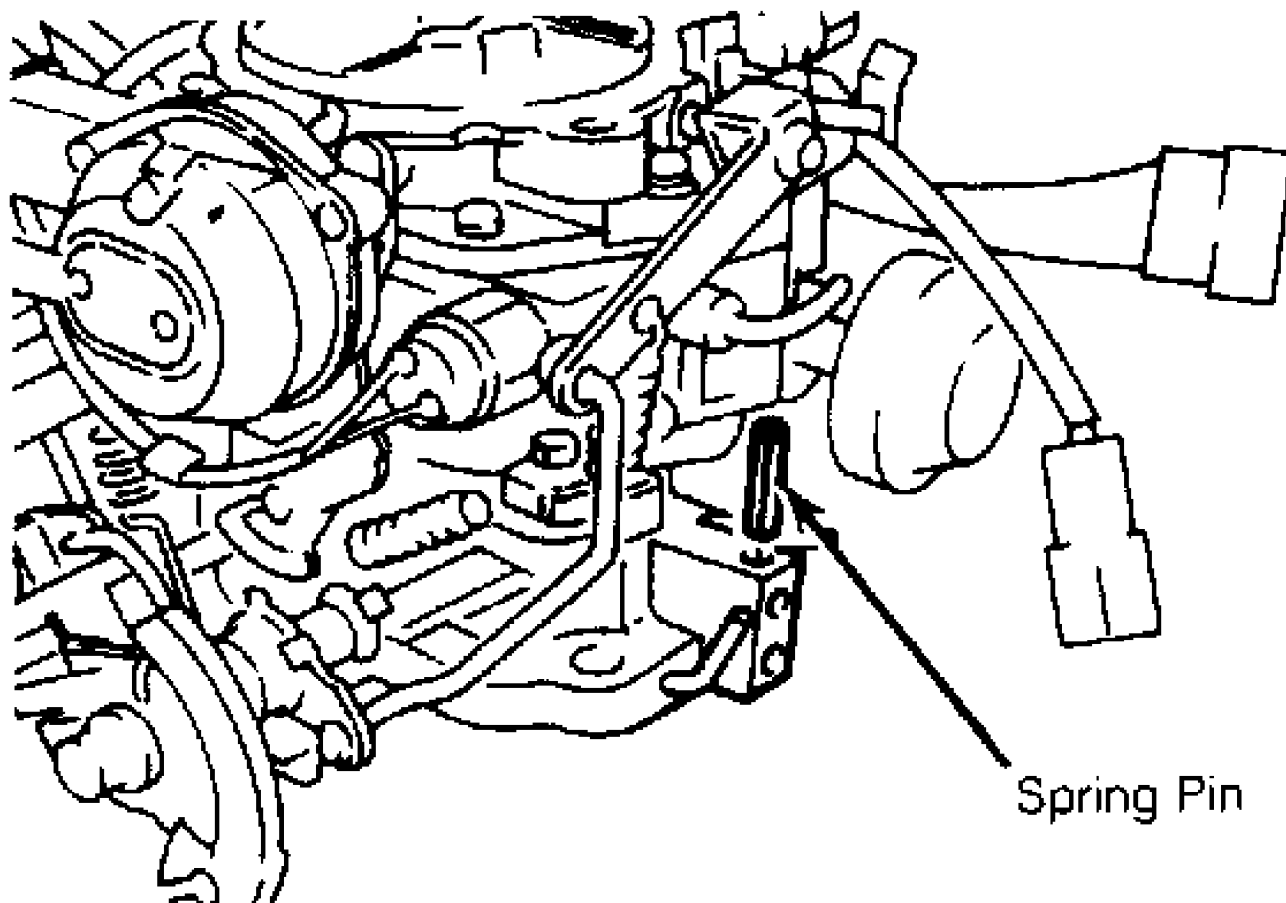

Fig. 11: B2200 Carbureted Removing Carburetor Mixture Screw Roll Pin
1) Check for presence of mixture screw roll pin. See Fig. 11. If roll pin has already been removed, go to next step. If roll pin is present, remove carburetor. Drive out mixture screw roll pin. Install carburetor.